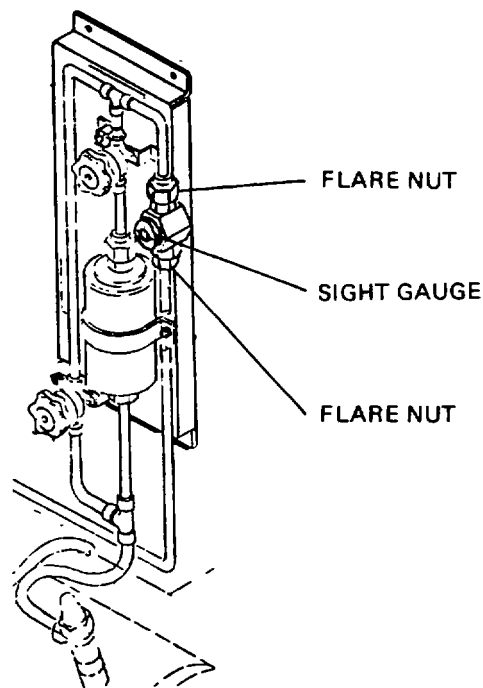

Figure 7-10. Sight Gauge
a. Removal (fig. 7-10).
- (1) Refer to paragraph 7-1 and pump down refrigeration system.
- (2) Remove flare nuts at liquid indicator sight gauge and remove gauge.